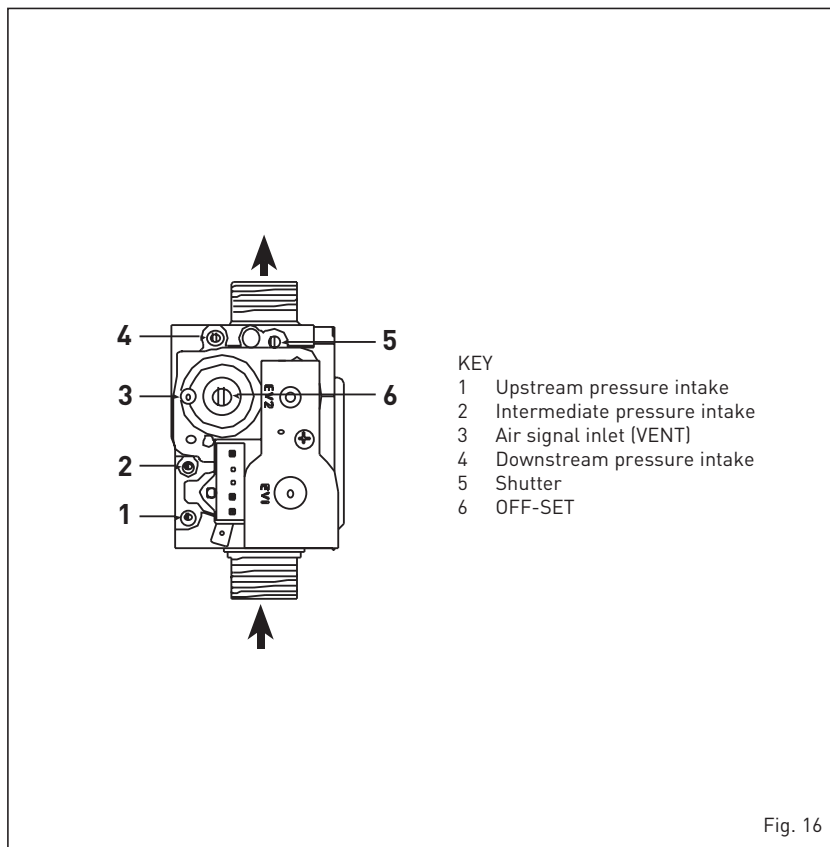

Fig. 16
4.1 GAS VALVE (fig. 16)
The boiler is supplied as standard with a gas valve, model SIT 822 NOVAMIX (fig. 16).
adjusting the shutter (5 fig. 16):
- 5) Identify the CO₂ values at min. power by adjusting the OFF-SET regulation screw (6 fig. 16):